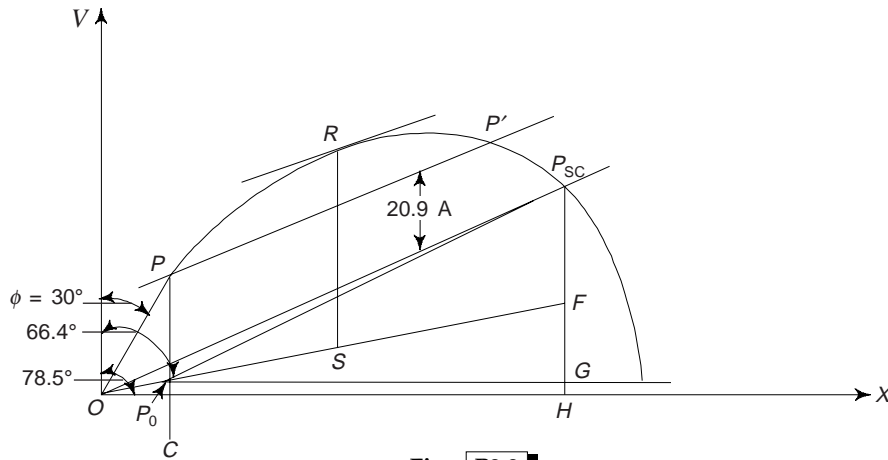

Fig. P9.9
(a) The circle diagram is drawn in Fig. P9.9. PP' is drawn parallel to the output line P_0P_{SC} at a vertical distance 20.87A above P_0P_{SC} . The point P pertains to this point (P' is the second but unacceptable solution—too large a current):
- (b) It will be necessary here to use Thevenin theorem. Finding the Thevenin equivalent to the left of ab in Fig. P9.9, we get